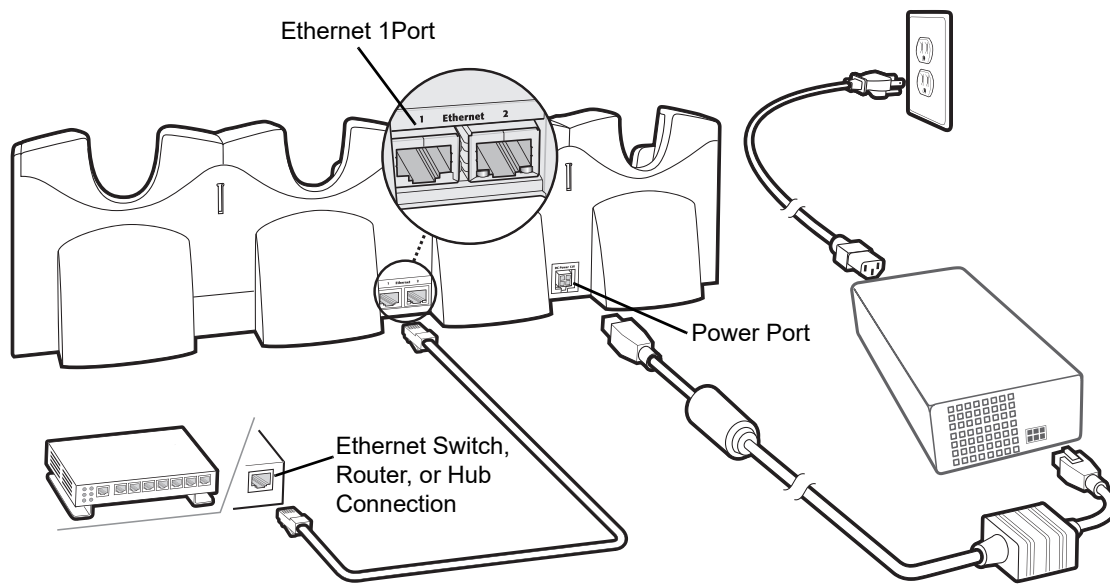

Figure 2-8 CRD5500-400ER Four Slot Ethernet Cradle Connection
2. Connect an Ethernet cable to the Ethernet 1 port of the first cradle and to the Ethernet switch. See Figure 2-8.